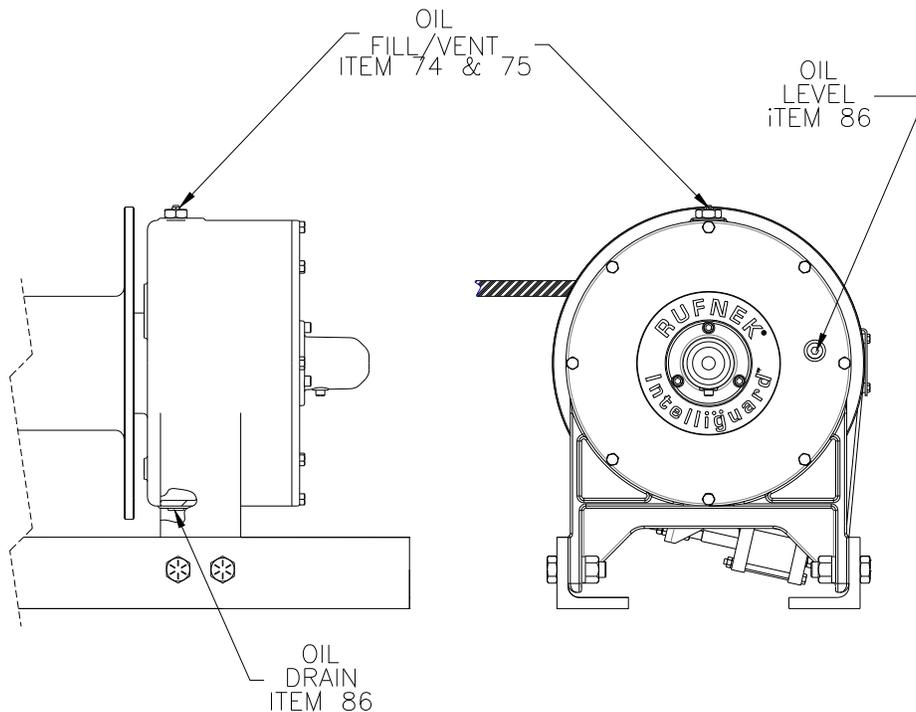

FIG 1
The oil is drained by removing the drain plugs (81 & 86) located at bottom of gear housing (60) (Figure 1) and bottom of brake cover (2) (Figure 2).